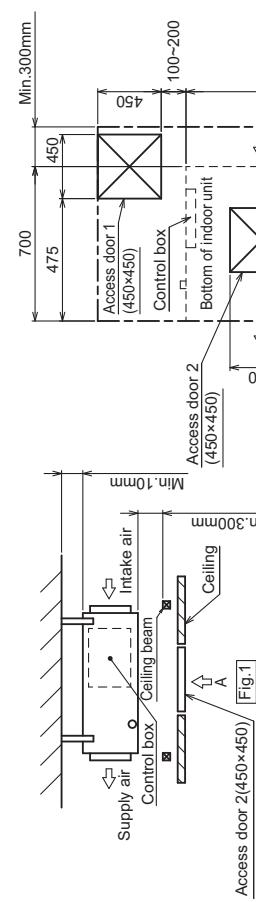

Fig.1 (Viewed from the direction of arrow A)
(1) When a space of 300mm or more is available below the unit between the unit and the ceiling. (Fig.1)